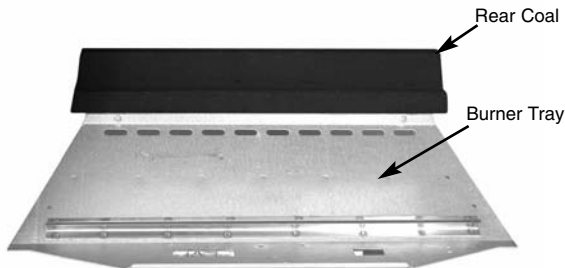

Fig. 10
1. Place the rear coal on the rear coal retainer ledge in a central position (Fig. 10).